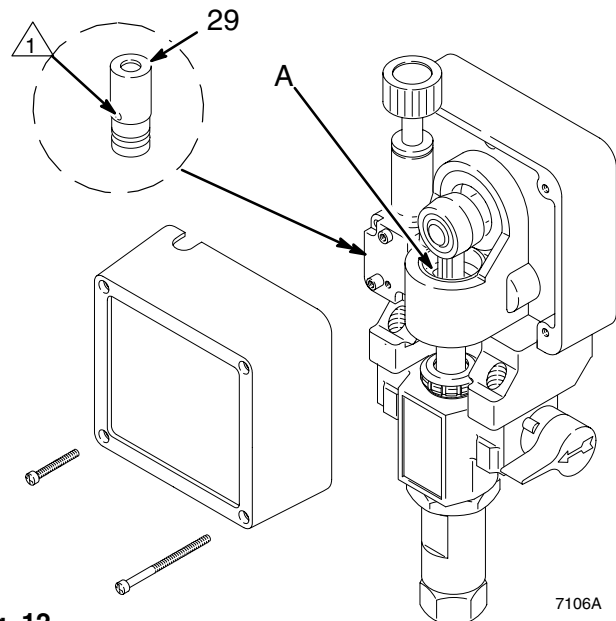

Fig. 12
5. **Periodically clean paint residue from the pressure transducer (29) vent hole area.** See Fig. 12. Replace the transducer when leakage is excessive. See page 28.
6. **Lubricate the bearing housing** after every 100 hours of operation. Remove the front cover. Fill the bearing housing cavity (A) with SAE 10 non-detergent oil. See Fig. 12.